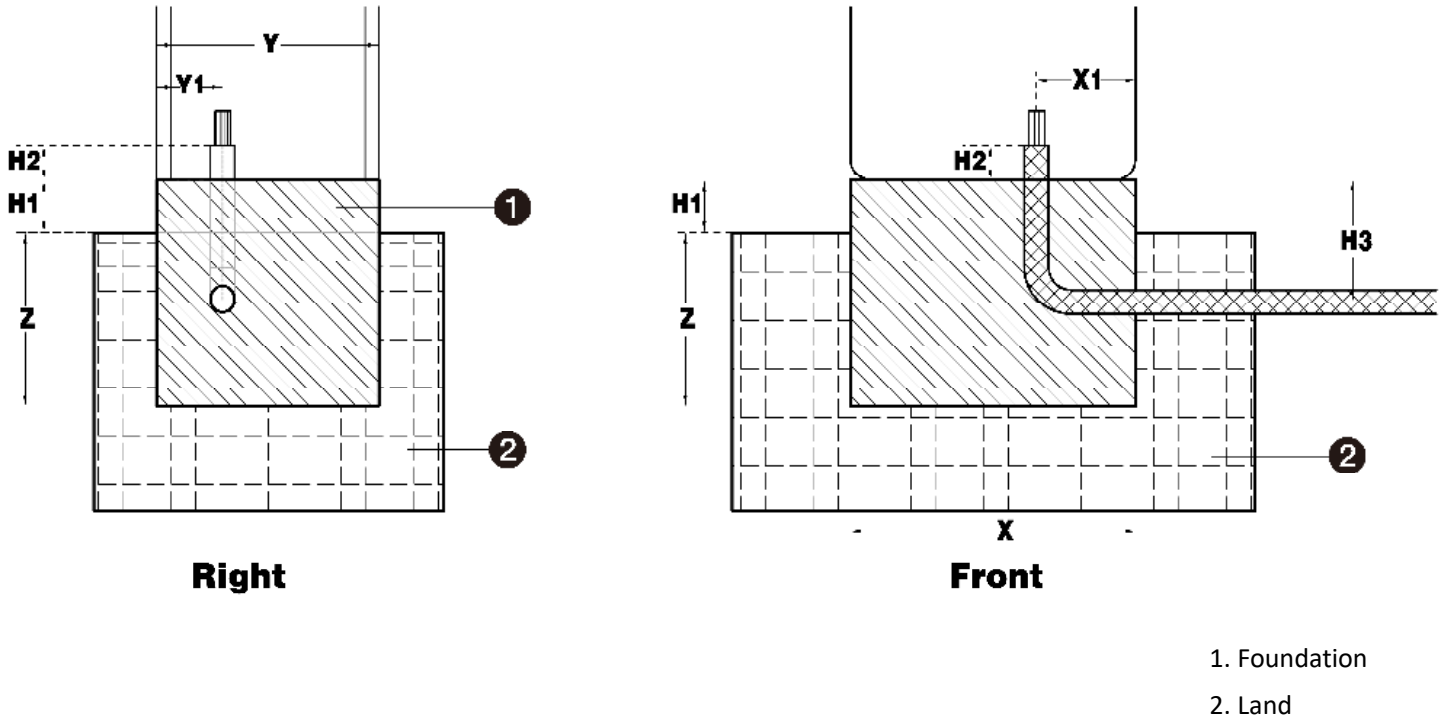
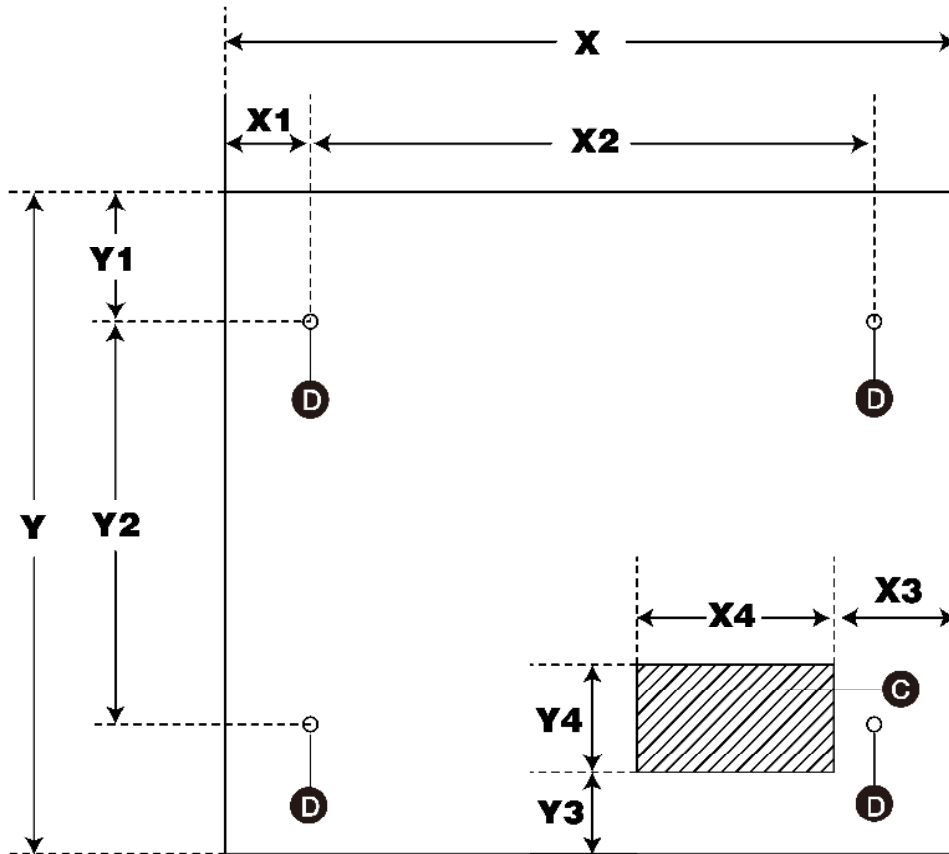

Figure 4-2 Preparing the Foundation
Figure 4-3 Foundation Diagram
5. Feed the AC input cables and the Ethernet cable (if available) out of the marked area (C). Ensure a length of at least 2 ft. (61 cm) is available above the foundation to allow wiring to reach the AC terminals. See Figure 4-2 Preparing the Foundation and Figure 4-3 Foundation Diagram.